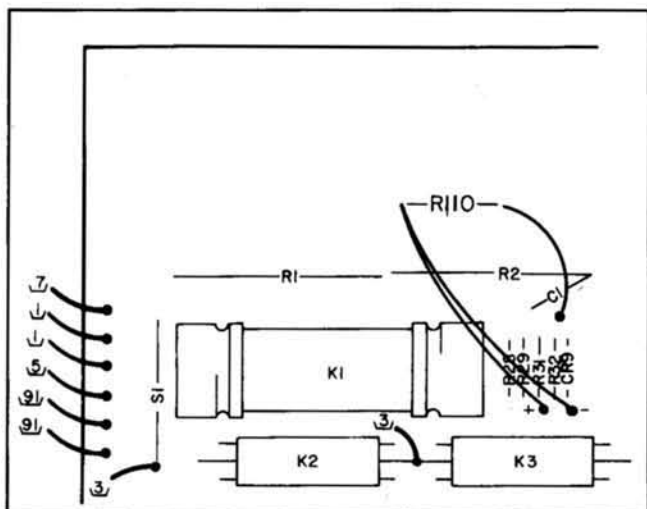

Figure 5-2. 1 Volt Zero Adjustment.
k. Remove the top covers and note the value of A10R106 — if there is an R110 installed (see Figure 5-2). Refer to Table 5-1 and record the Offset Voltage that corresponds to the current value of A10R110: \_\_\_\_\_. (If there is no A10R110, record 0.000000 V.) If R110 is connected to the terminal marked "+", the polarity of the Offset Voltage is *negative*; if R110 is connected to the terminal marked "-", the polarity of the offset is *positive*.
n. Remove the original A10R110 (Figure 5-2). If the total offset (Step l) is positive, connect the new R110 between the unmarked terminal and the terminal marked "-"; if the total offset is negative, connect it between the unmarked terminal and the terminal marked "+".